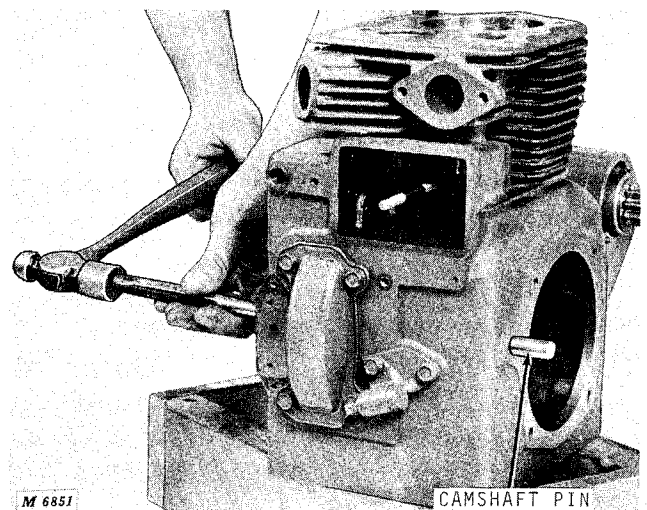

Fig. 5-Removing Camshaft Pin
Use a blunt punch to drive camshaft pin out of block, Figure 5.
**IMPORTANT:** Drive pin out from power take-off side of cylinder block only. Pin will slide out easily after it is driven free from this side of block, Figure 5. Removing or installing pin incorrectly will damage engine block.